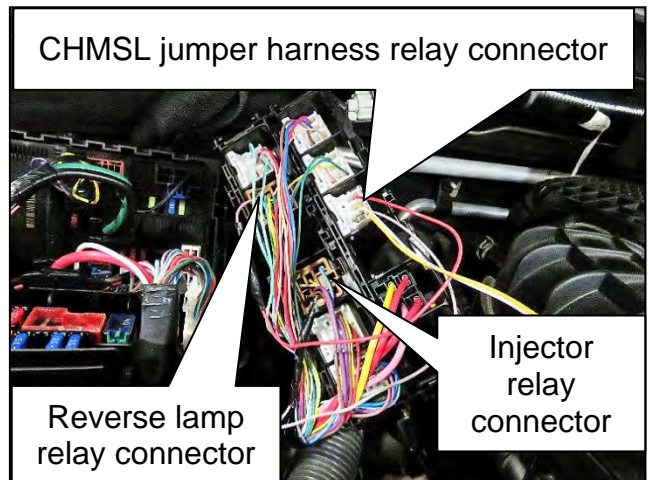

Figure 26
21. Insert the CHMSL relay connector from the CHMSL jumper harness into the open relay slot shown in Figure 26.
- Figure 26 shows CHMSL relay connector installed into the open relay slot.